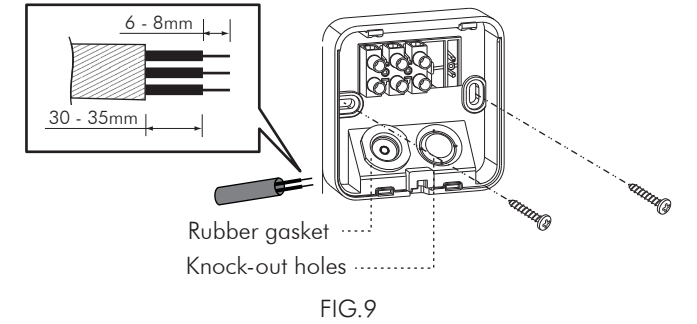

FIG.9
3.3.1 Please be noted to strip off 6-8mm of cable sheathing by tool (See FIG.9).
3.3.2 Put the electric cable through the rubber gasket and fit the bottom case on the wall firmly by two screws (See FIG.9).